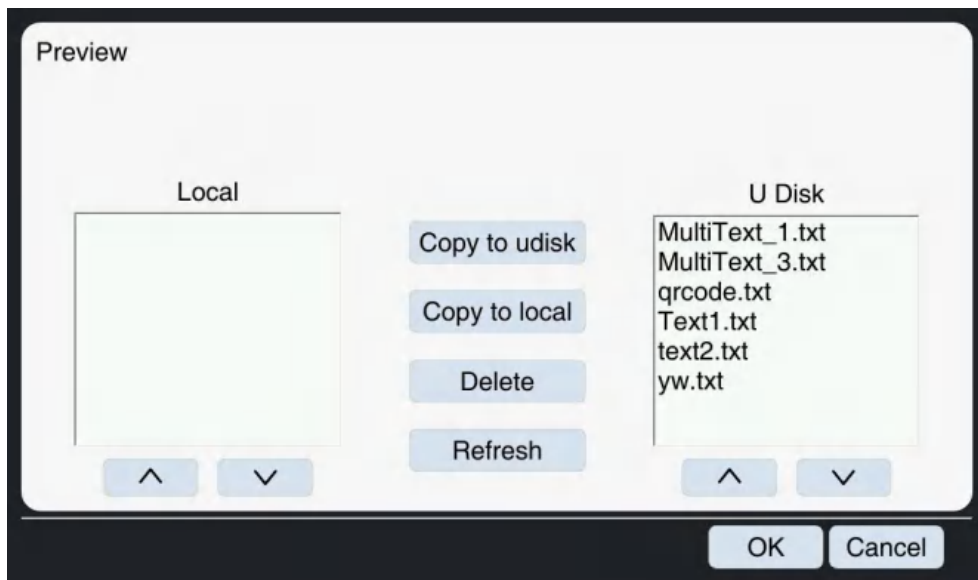

Figure 5-13 File Preview Interface
3.When you select the U disk to print TXT text, click the **File** button, then click the **File Loading** button, and then the system will enter the preview interface. As shown in Figures 5-13. Selecting the file to be printed, and clicking the  button.